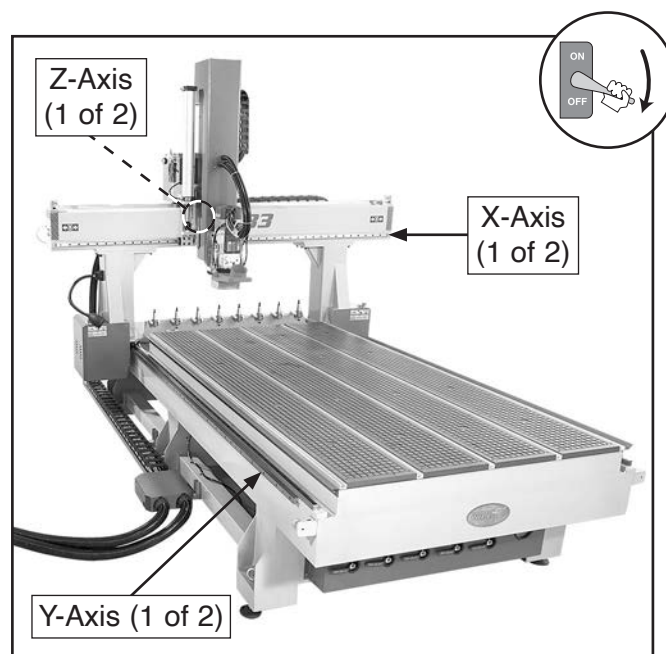

Figure 139. Location of axes linear guideway lubrication areas.
2. Clean axes guideways with mineral spirits to remove old lubrication (see **Figure 139**).
3. Use clean shop rag to wipe entire length of axes guideways with Grizzly T27914 or ISO 68 equivalent (see **Figure 139**).